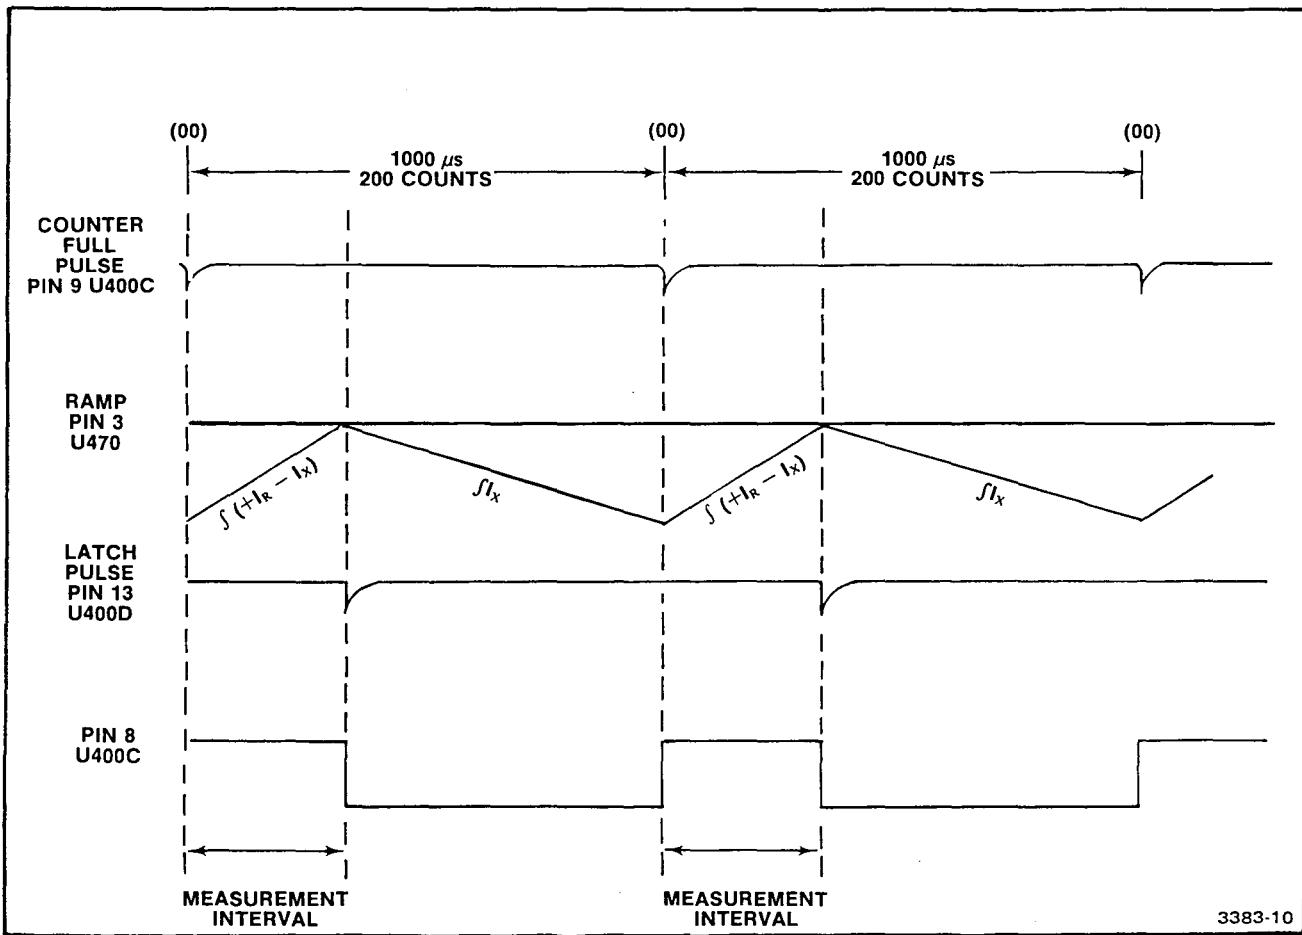

Fig. 3-1. DVM timing diagram for a negative input to the integrator U460.
The system contains two reference current sources; a  $+I_r$  source from the collector of Q415 and a  $-I_r$  source from the collector of Q400. Only one of these current sources is switched on at a given time, dependent on the polarity of the voltage change on the 100 V bus. For a ramp that is negative, pin 5 of U400B is set high and pin 1 of U400A is set to a low. Pins 2 and 4 of these NAND gates connect to a common control line and, while the counter is counting up to a count of 200 (00), pin 8 of U400C is at a low level. During the first ramp period, the output levels of U400A and U400B are high and both reference current sources are cut off. See Fig. 3-1.